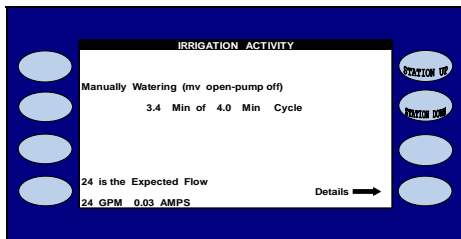

**Figure 6.13**
The REAL-TIME DISPLAYS screen is displayed (Figure 6.13).
1.  Press the **LIVE SCREENS** Menu key to access the REAL-TIME DISPLAYS screen (Figure 6.13)
5.  Press the **LIVE SCREENS** Menu key to access the REAL-TIME DISPLAYS screen (Figure 6.13)